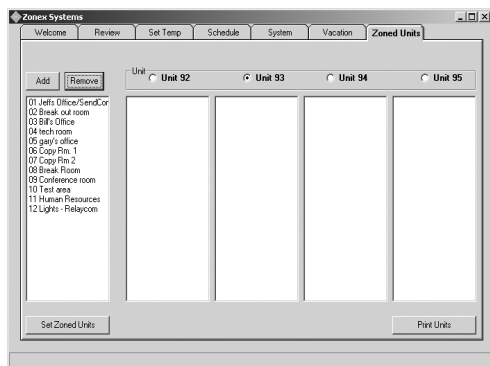

Fig. 28
ZONED UNITS Screen – Fig. 28
2. Verify that all thermostat/device address numbers appear in the Add/Remove left column (see Fig. 28).